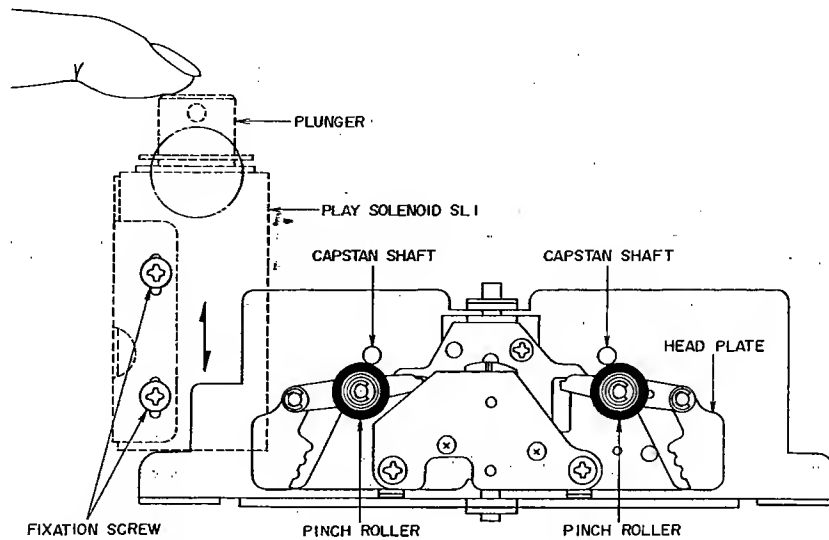
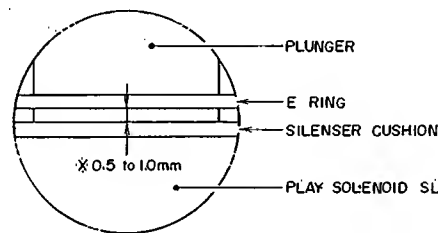

Fig. 6
Fig. 7
4. PLAY SOLENOID INSTALLATION POSITION ADJUSTMENT (Refer to Fig. 6 and 7)
As shown in Fig. 6, at stop mode, when the tip of plunger is gently depressed, the pinch roller contacts the capstan shaft, at this time confirm that the gap between "E" ring and silencer cushion is 0.5 to 1.0 mm (See Fig. 7).
If not, adjust play solenoid installation position as indicated by the arrow mark in Fig. 6 to obtain specified gap.